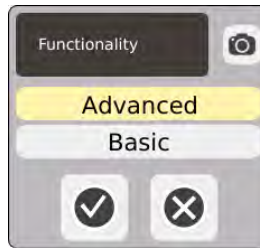

Figure 5-12 Functionality Selection
- h. Select the functionality (Advanced or Basic) for the user and then select the  button (refer to Figure 5-12). For more information about Advanced and Basic functionality, refer to Chapter 6.